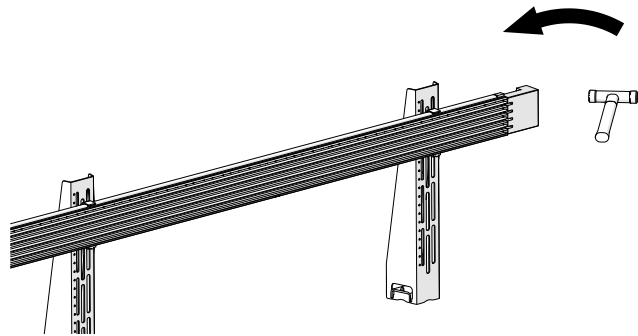

Fig. 21: Force the conductor rail into its place by means of a soft-head hammer
2. Place the mounting block next to the socket side of the conductor rail to be mounted. Then force the conductor rail carefully into the opposite conductor rail by means of slight taps with a soft-head hammer (see Fig. 21).